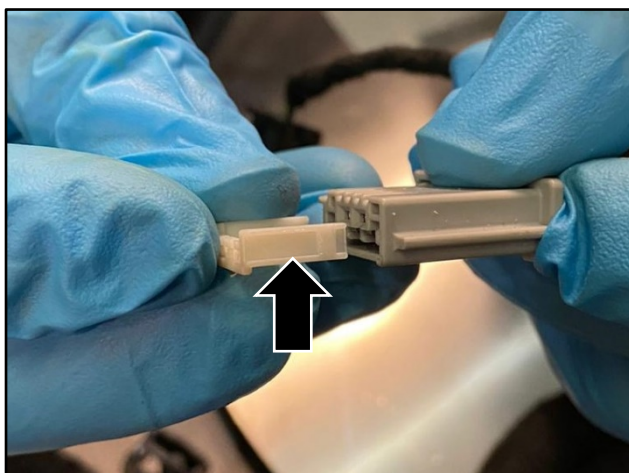

Figure 8
13. Install the terminal lock (refer to Figure 8).